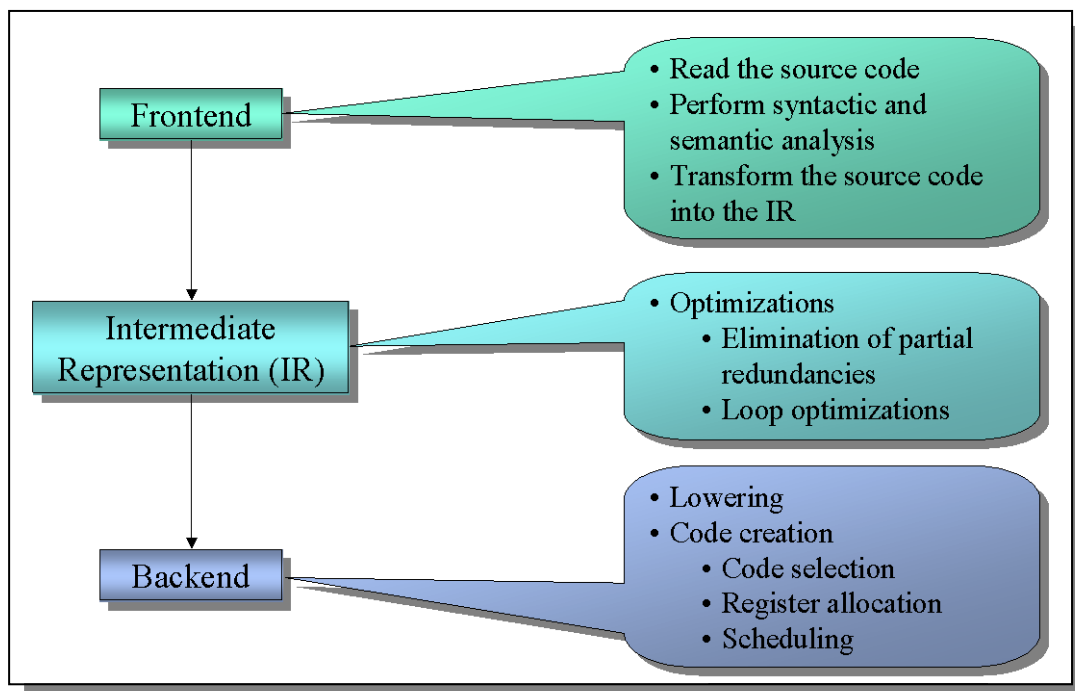

Figure 8-1
A typical retargetable compiler is separated into 3 phases, as shown in Figure 8-1. The first stage is architecture independent, but source language dependent. This phase reads the source code, inspects it for syntactic and semantic correctness, and transforms it into the second phase, the intermediate representation (IR). This IR is as well source language independent as architecture independent and it is used to perform the optimizations. This implies, that the optimizations can be easily reused, if the source language or the architecture changes. The third phase is source language independent, but highly architecture dependent. This backend first transforms the IR into a low-level form. That means, that high-level structures, like polymorphic procedure calls are replaced by jump tables or that complex data structures are